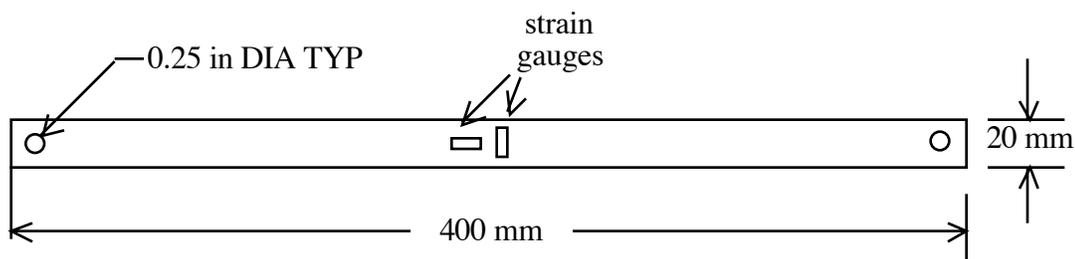

Figure 3. Approximate dimensions of the material specimens, each specimen is approximately 2 mm thick.
These materials have been cut into specimens as depicted in Figure 3 below. The team will apply two strain gauges to each specimen (one in the axial direction, one in the lateral direction). With teams of six applying two gauges to each of three metal specimens, each of you will have the opportunity to apply a strain gauge to a specimen.
1. If the specimen described in Figure 3 is hung from a hook and a 100 pound load is applied what will be the resulting stress (in each direction) in the vicinity of the strain gauges for each material (aluminum, Titanium, CF composite and steel)?